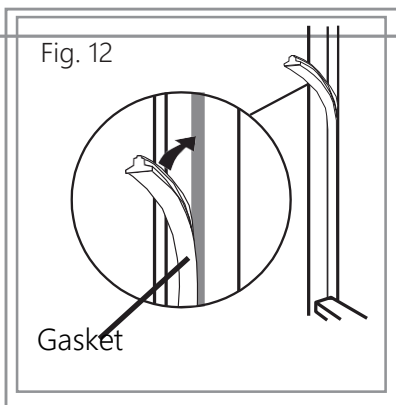

Fig. 12
- Fill the gap on the non-hinged side with the gasket/seal strip provided, as shown in Fig.12.